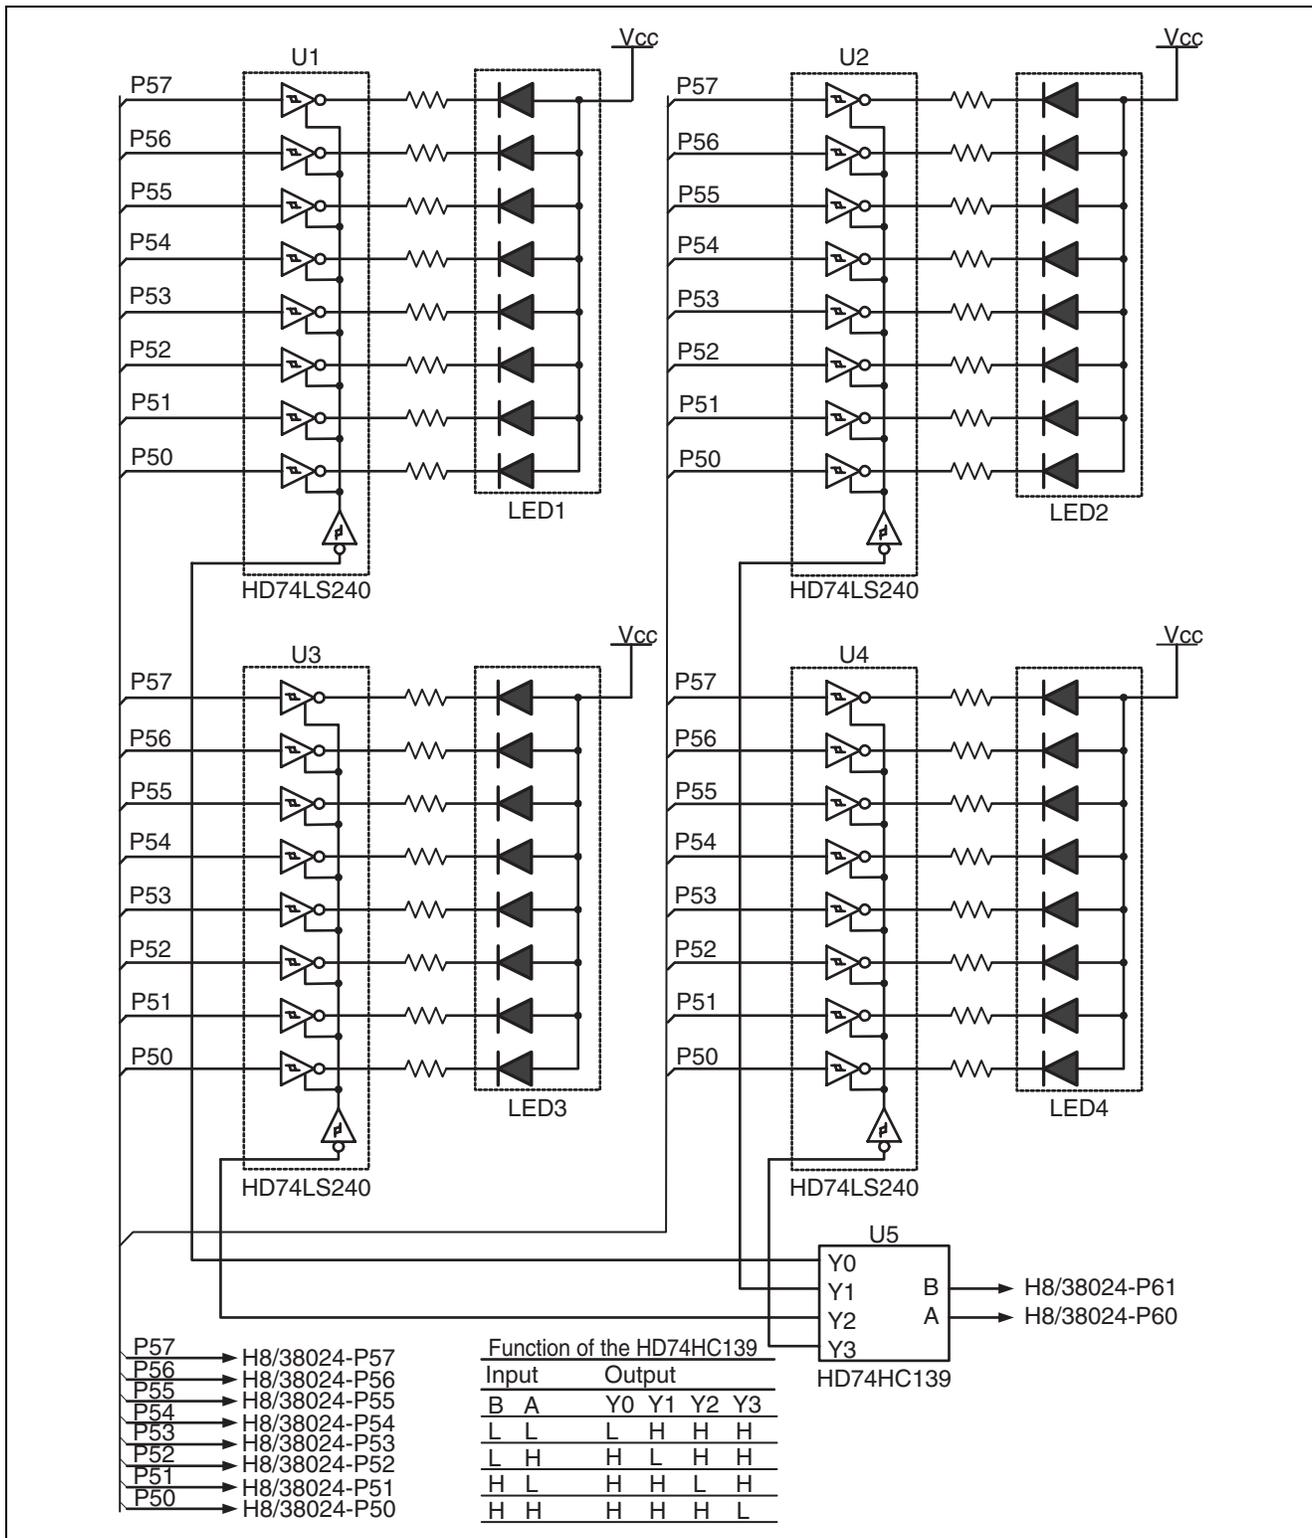

Figure 3 Control of 7-Segment LEDs
8. In this sample task, the 7-segment LED display is set up by connecting the port outputs to the tri-state output inverter drivers (HD74LS240) and connecting the driver outputs to the cathodes of the 7-segment LEDs. In addition, all the ports used for the four 7-segment LEDs are connected to the 7-segment LEDs and the enable pins of the tri-state inverter drivers are used to renew between the 7-segment LEDs. The signal generation for renewing between the LEDs is controlled by the two port outputs of a 2-to-4 line decoder (HD74HC139). Figure 3 illustrates the method of controlling the 7-segment LEDs.